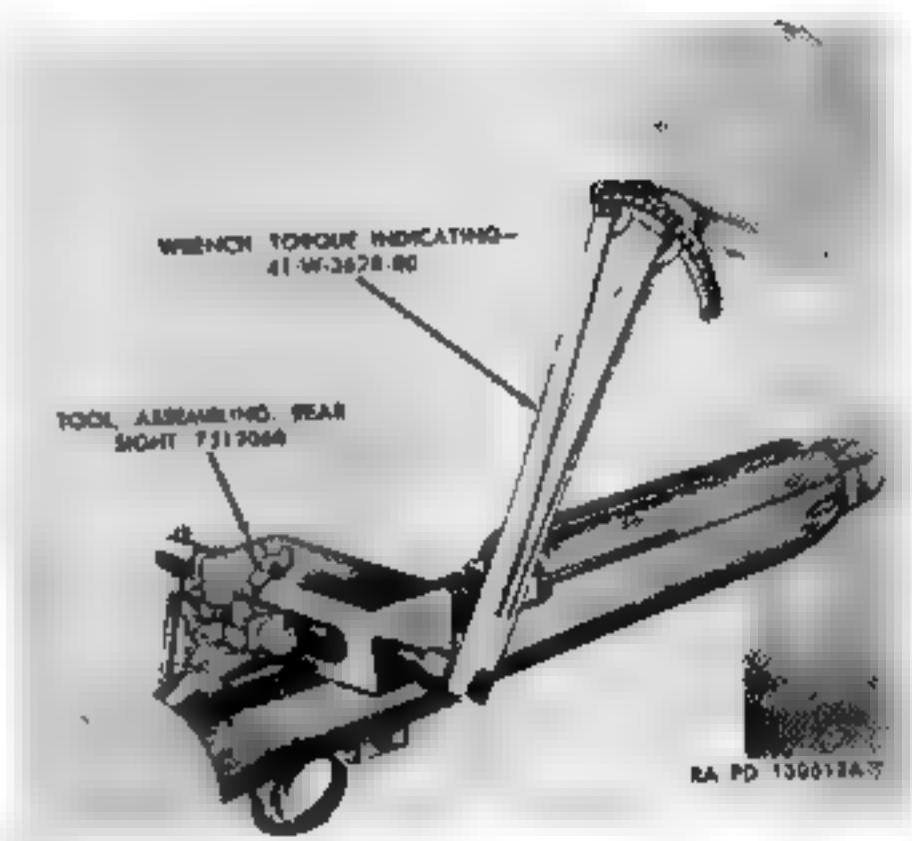

Figure 70. Moving rear sight in place with torque wrench.
g. Insert torque wrench 41-W-3628-85, and move the sight into the dovetail slot (Fig. 70). Wrench should show an applied torque reading of between 18 and 54 inch-pounds. If the reading is not within the above limits, remove sight and proceed as follows.